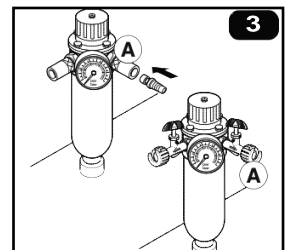

Fig. 3
3. When starting the compressor for the first time, leave it running for about 10 minutes with air cocks (A) completely open (Fig. 3).
4. After 10 minutes, close cock (A) and make sure that pressure in the tank is properly delivered. The compressor stops automatically when the max pressure is reached as shown on the gauge (B).